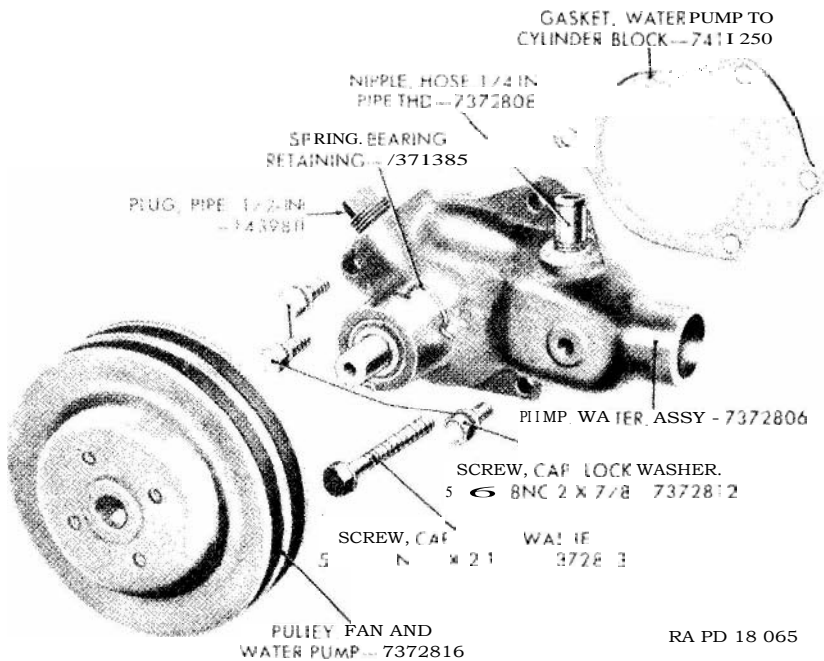

Figure 54. Water pump assembly.
- a. Pull the water pump bearing retaining spring (fig. 54) out of the slot in the body of the water pump.
f. Do not remove either the pipe plug or the hose nipple (fig. 54) from the water pump body unless they are damaged.
e. Aline the bearing retaining spring (fig. 54) groove in the bearing with the slot in the body of the water pump, and install the bearing retaining spring.